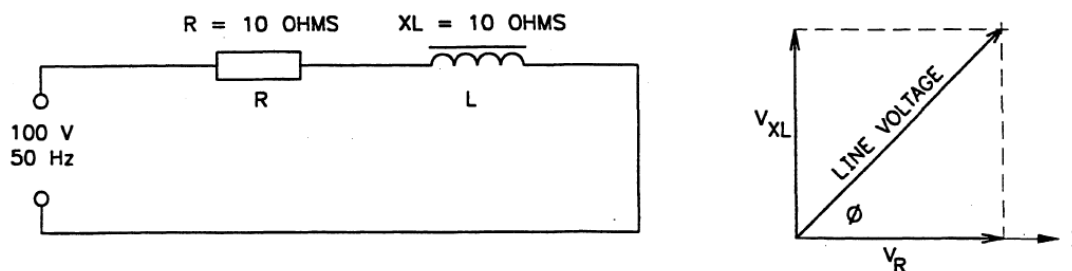

Figure 1 - RL Series Circuit
- If a resistor with a resistance (R) of 10Ω was connected in series with a pure inductor which had an inductive reactance (X_L) of 10Ω , and the supply voltage was 100V, 50Hz a.c., the circuit could be drawn as shown in Figure 1.